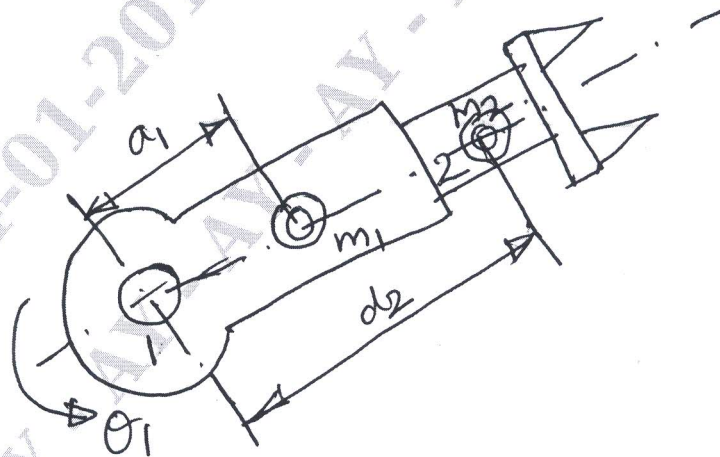

Fig.Q.5(b)
b. Using the L-E formulation, determine the equation for motion for a RP manipulator shown in Fig.Q.5(b). (10 Marks)